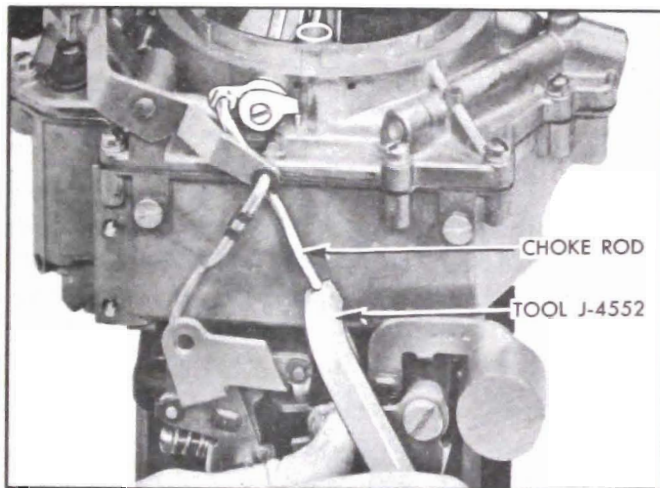

Figure 3-82—Adjusting Fast Idle Cam
2. If choke valve clearance is not correct, bend choke rod as required to obtain this clearance using Tool J-4552. See figure 3-82.